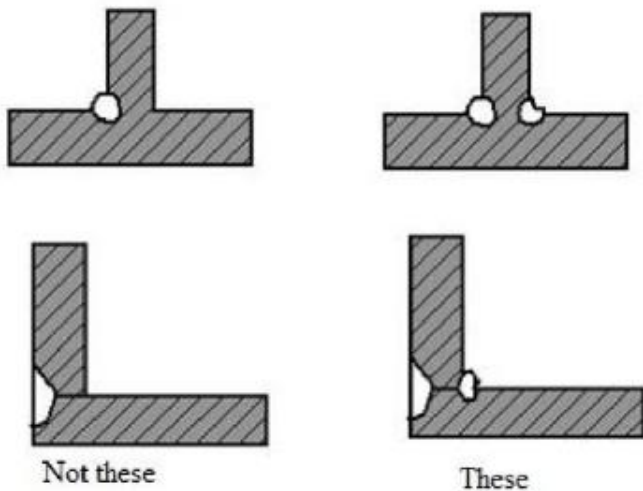

Figure 3.7.8: Use opposing welds to reduce angular distortion
- Place welds opposite one another to reduce distortion, Figure 3.7.8.